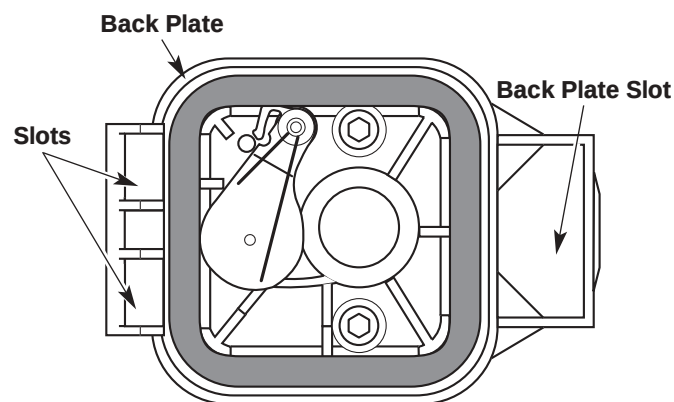

Fig. 48
7. Reinstall the air filter cover. Position the hooks on the left side of the air filter cover into the slots at the left side of the back plate (Fig. 48).
8. Swing the cover to the right until the tab on the air filter cover snaps into place in the slot on the back plate (Fig. 48).